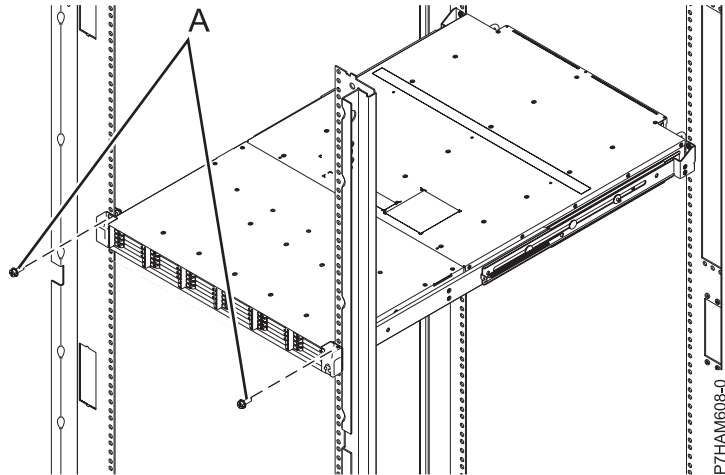

Figure 15. Securing the front of the enclosure to the rack
- e. Secure the front of the enclosure to the rack flanges by applying the securing screws (A) through the top open holes in each bracket and into the top EIA holes, as shown in Figure 15 on page 13.